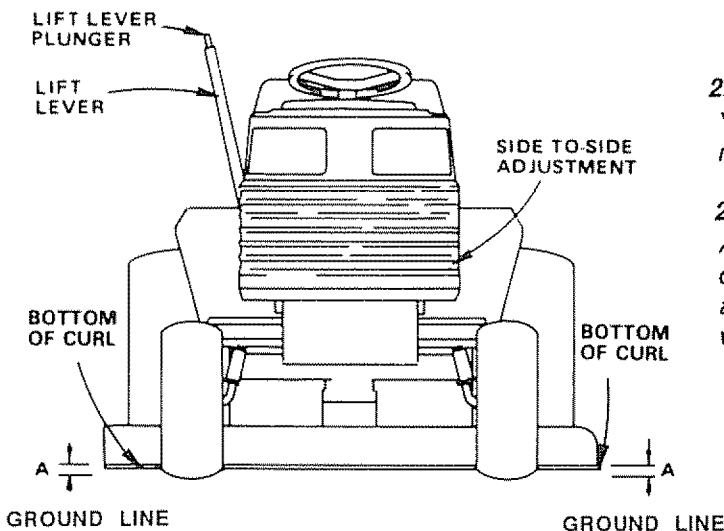

FIGURE 30
- Depress lift lever plunger and use lift lever to raise mower to maximum cutting height. (Fig 30).
- Measure height from bottom of curl to ground line at front of mower. Distance "A" should be the same on both sides (Fig. 30).